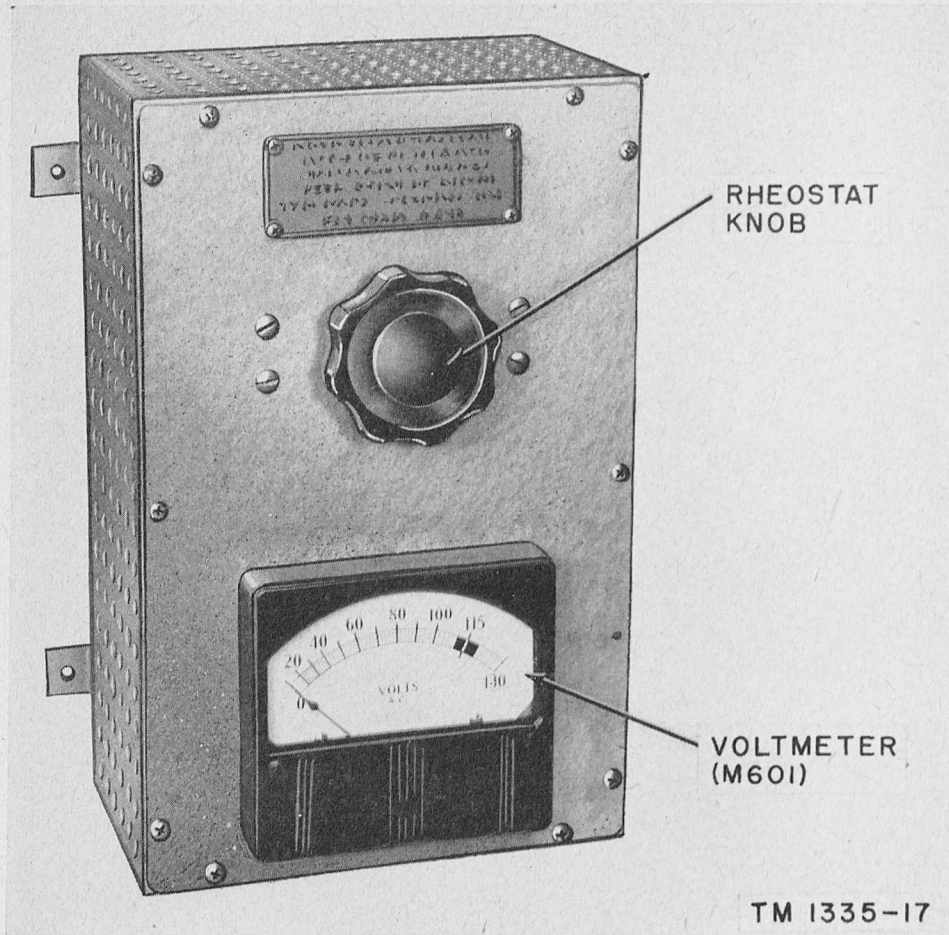

Figure 15. Voltage Regulator CN-192/SPN-11X.
d. Voltage Regulators. Voltage Regulator CN-194/SPN-11Z, Voltage Regulator CN-193/SPN-11Y, or Voltage Regulator CN-192/SPN-11X (fig. 15) is furnished for operation on a 24-, 32-, or 115-volt d-c supply line. The voltage regulator has a rheostat for adjusting the motor-generator a-c output voltage and a voltmeter to indicate the output voltage. The voltage regulators are alike, except that the resistance of the rheostat is determined by the d-c supply voltage on which the regulator is to be used.